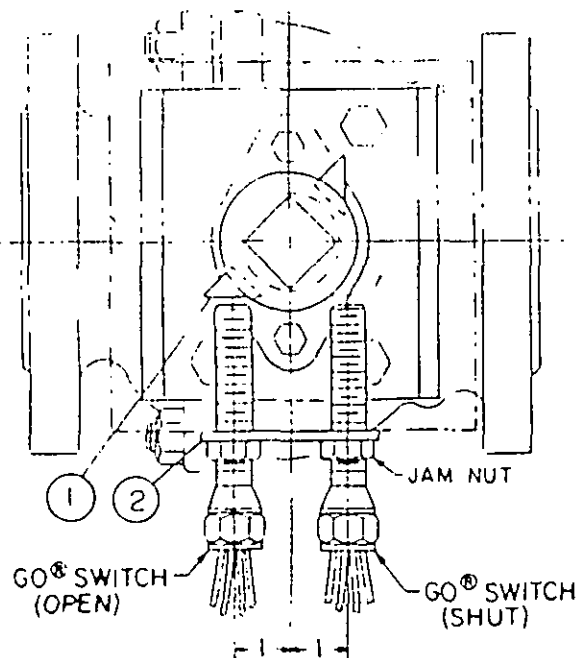

FIG. 1
1. With Valve Actuator removed slide Switch Activator (item 1) onto drive shaft as shown in figure 1.
2. To Mount Mounting Bracket (item 2) match drill and tap for three #10-24 UNC screws. Attach Mounting Plate to Actuator mounting bracket with items 4 & 5.
3. Screw GO Switches into threaded holes on Mounting Bracket (item 2) and secure with jam nuts included with switches.